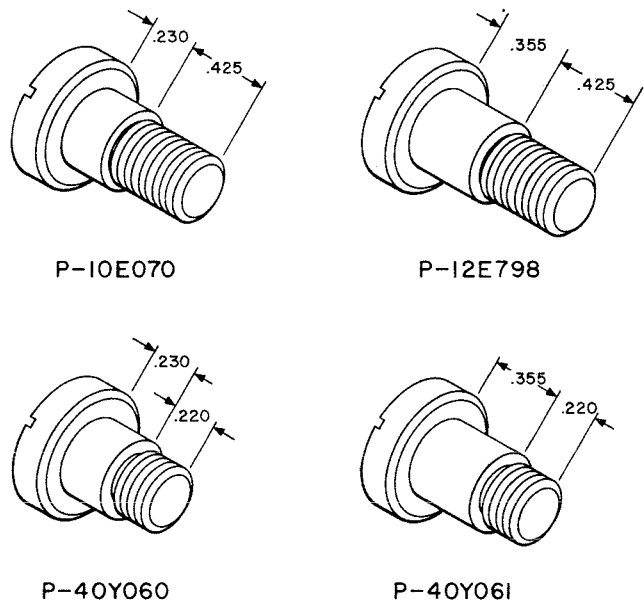

Fig. 22—Security Studs
3.26 Security studs are used to give added strength to the mounting of a coin collector/telephone on a backboard. Four versions are available as shown in Fig. 22.